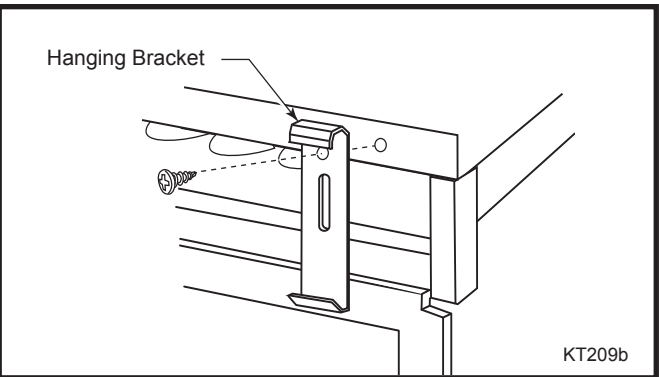

Fig. 34 Hanging bracket alignment.
2. Install the hanging brackets. (Fig. 34)